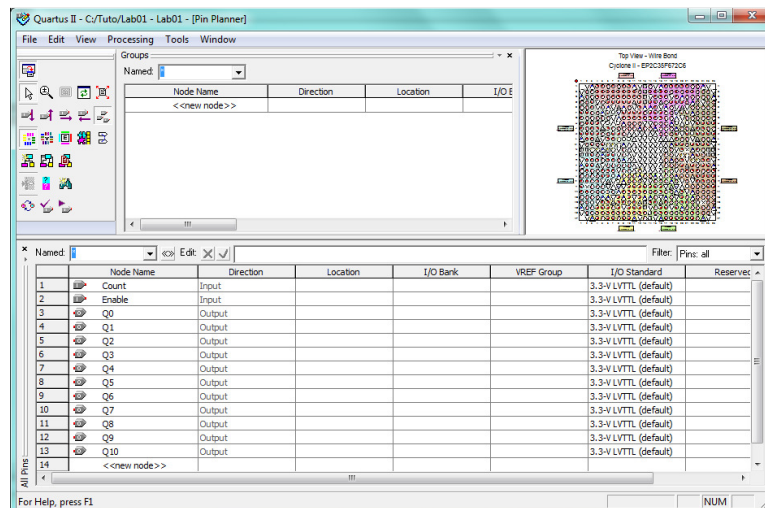

Fig. 10: Pin Planner
- Next, click on Assignments > Pin Planner (See Fig. 10). If the pin list at the bottom of the window is not visible, click View > All Pins List.